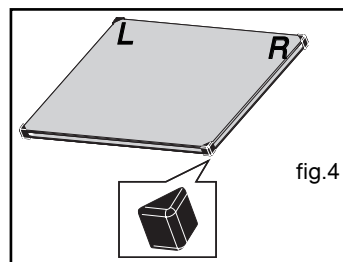

fig.4
• **Multi-purpose dish (fig.4)**
- If necessary, remove the door's inner glass assembly. This assembly is composed of one or two sheets of glass (depending on model), each of which has a black rubber corner pad (fig.4).